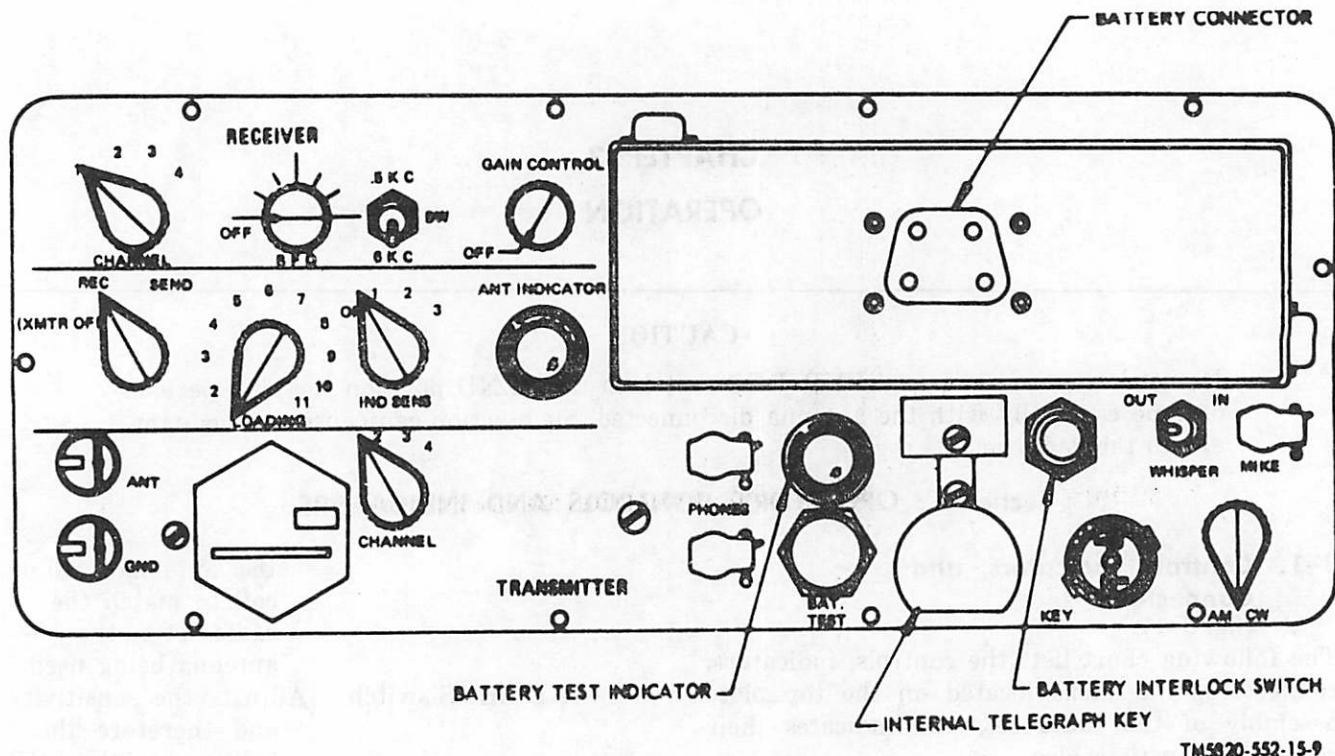

Figure 3-1. Radio Set AN/PRC-64A, controls, indicators and connections.
f. Referring to figure 3-1, connect a 50-ohm, 10-watt resistor from the ANT to the GND terminals of the radio set.
c. Referring to figure 3-1, set the REC-SEND switch to REC, the BFO to OFF, the BW (bandwidth) to .5 KC-6KC switch to 6KC and the GAIN CONTROL to its maximum clockwise position. Connect a headphone to one of the PHONES jacks.
### 2-8. Testing the Battery (fig. 3-1)
#### 3-1. Controls, Indicators, and Connectors (fig. 3-1)
### 3-5. General Starting Procedure (fig. 3-1)
(fig. 3-1)